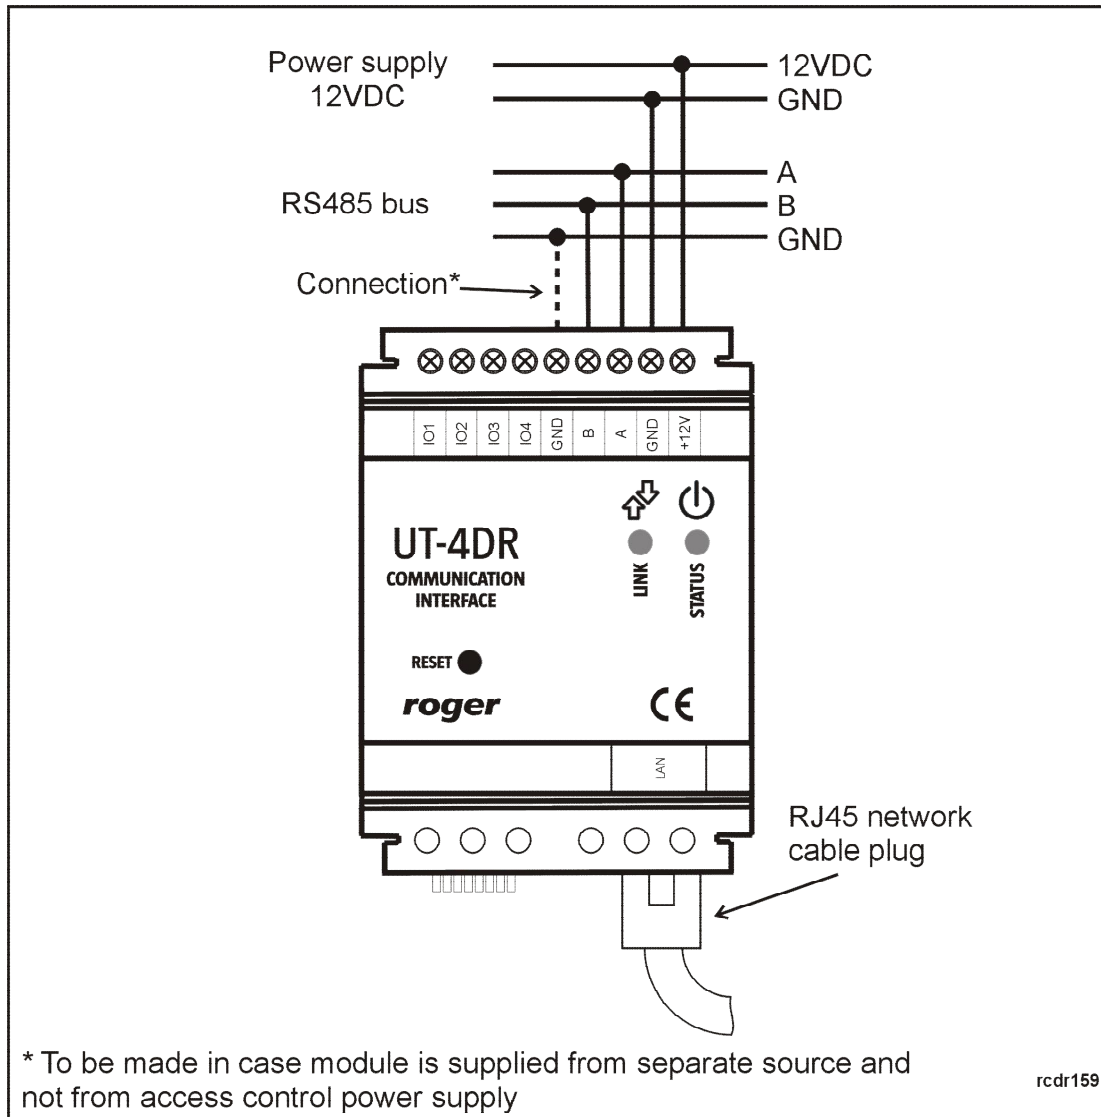

Fig.2 UT-4DR proposed connections diagram in RACS system.
UT-4DR is equipped with two LED diodes indicating actual state of a device (Fig.2). Bi-color LED LINK ↕ informs about currently going transmission in RS485 bus, where green color means data sending, while red data receiving by a module.
The device is supplied from 12VDC voltage (acceptable voltage range 10-15VDC) which can be taken from access control system or from separate power supply source. In this second case it is essential to make electrical connection between power supply ground and RACS system RS485 bus ground (Fig.2).
- If UT-4DR module is supplied from an independent power source (separate from RACS system) it is strongly suggested to make a connection between RS485 and UT-4DR module grounds (Fig.2)